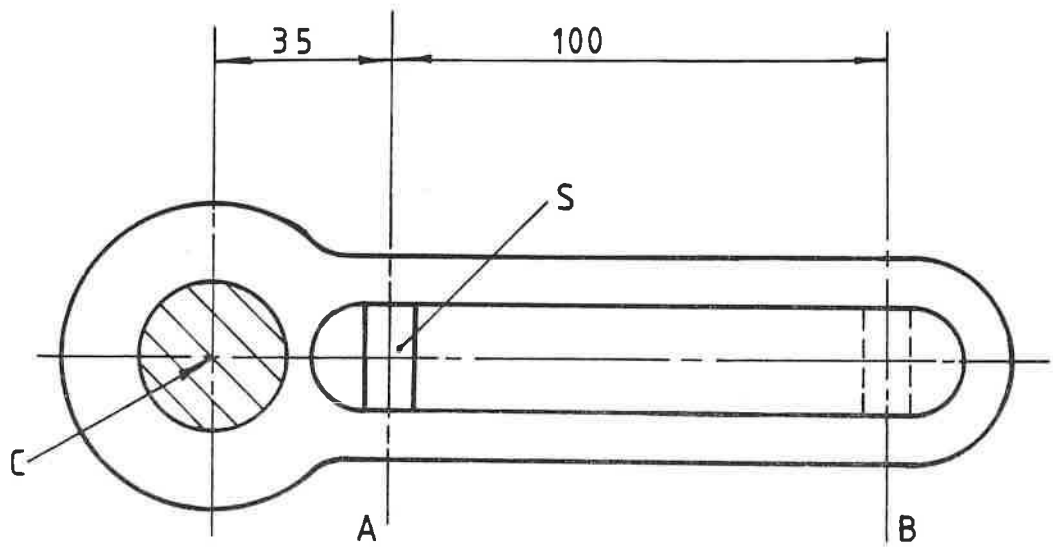

FIG. 3 FÍOR 3
- (b) Fig. 3 shows a slotted lever mounted on a shaft, centre C, and carrying a slider S. The lever makes one revolution clockwise, at constant speed about C, while the slider moves at constant speed from A to B. Using a line diagram to represent the mechanism, plot the locus of S for one revolution of lever.